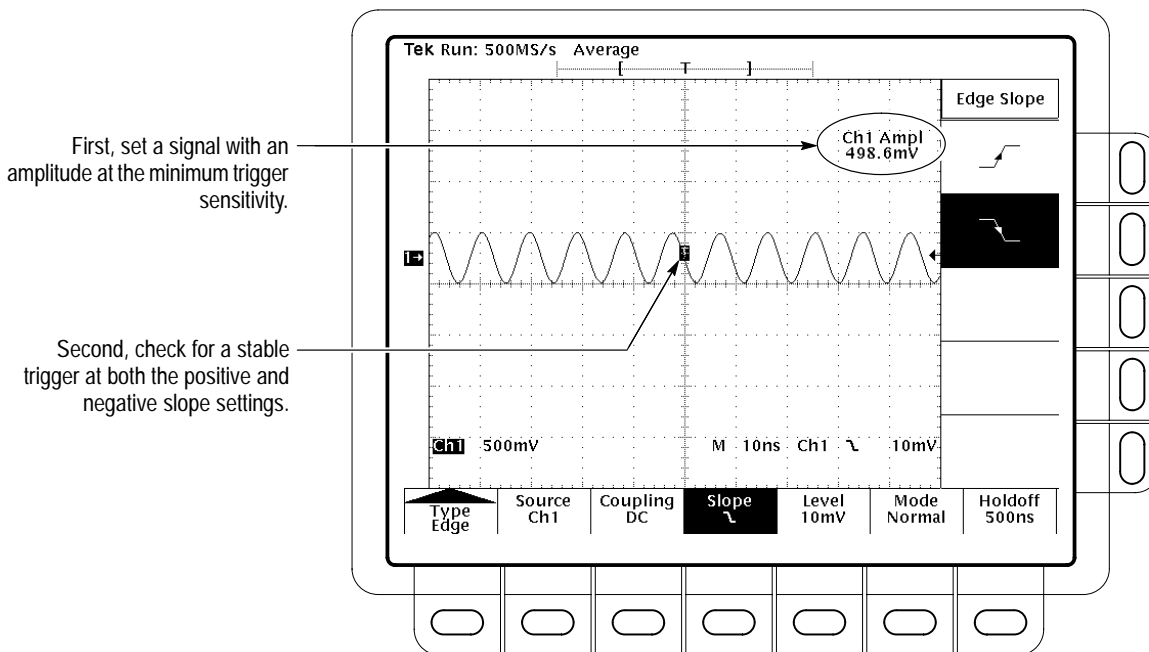

Figure 4–10: Measuring trigger sensitivity
15. Press **SET LEVEL TO 50%**. Check that a stable trigger is obtained for the test waveform on both the positive and negative slopes (see Figure 4–10). (Use the side menu to switch between trigger slopes; use the trigger **LEVEL** knob to stabilize the trigger if required.)